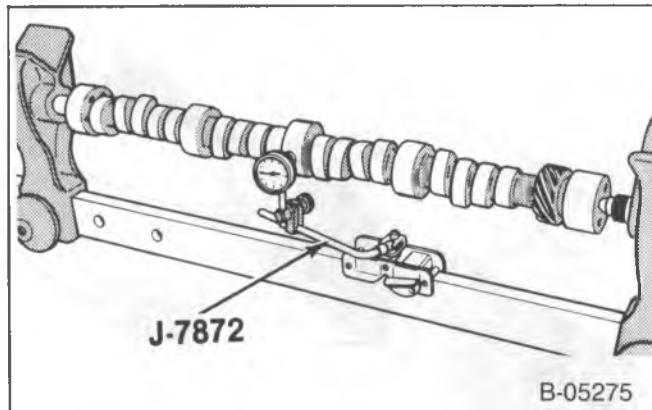

Figure 29—Measuring Camshaft Run-Out
Measure (Figures 29 and 30)
- Camshaft runout (figure 29). Mount the camshaft in V-blocks or between centers. Using J 7872, check the intermediate camshaft journal. If runout exceeds (0.0015-inch), the camshaft is excessively bent and should be replaced along with the camshaft bearings.